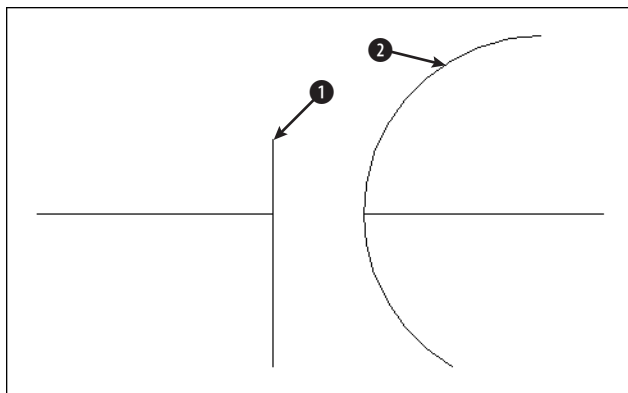

Figure 10-22: A poorly drawn capacitor symbol
2. Save the file as `ab10-07.dwg` in your AutoCAD Bible folder. It is a capacitor symbol from an electrical schematic, as shown in Figure 10-22.
Select an object or [DElta/Percent/Total/DYnamic]: *Pick the line at ① in Figure 10-22.*
Select an object to change or [Undo]: *Pick the line at ① in Figure 10-22.*
Select an object or [DElta/Percent/Total/DYnamic]: *Pick the arc at ② in Figure 10-22.*
Select an object to change or [Undo]: *Pick the arc at 2 in Figure 10-22.*